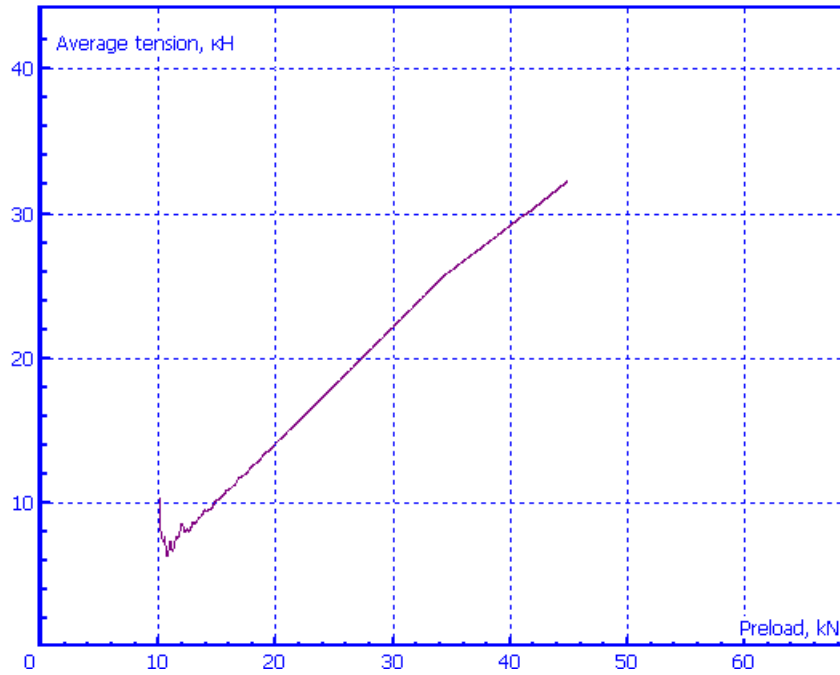

Fig. 48 Average track tension vs. preload
Let us discuss the main result of the test: dependence of the average track tension on the preload in bushings, Fig. 48. The plot has two straight sections: the first section (tension is lower 35 kN) when the load on the tension device is less than the tension spring preload and the second section when the tension spring compressed. In our model the preload of the tension spring is 50 kN.
5) Now the preload in bushings can be evaluated from Fig. 48 by the desired track tension. Let the track tension must be 20 kN. The corresponding bushing preload is approximately 26.6 kN.